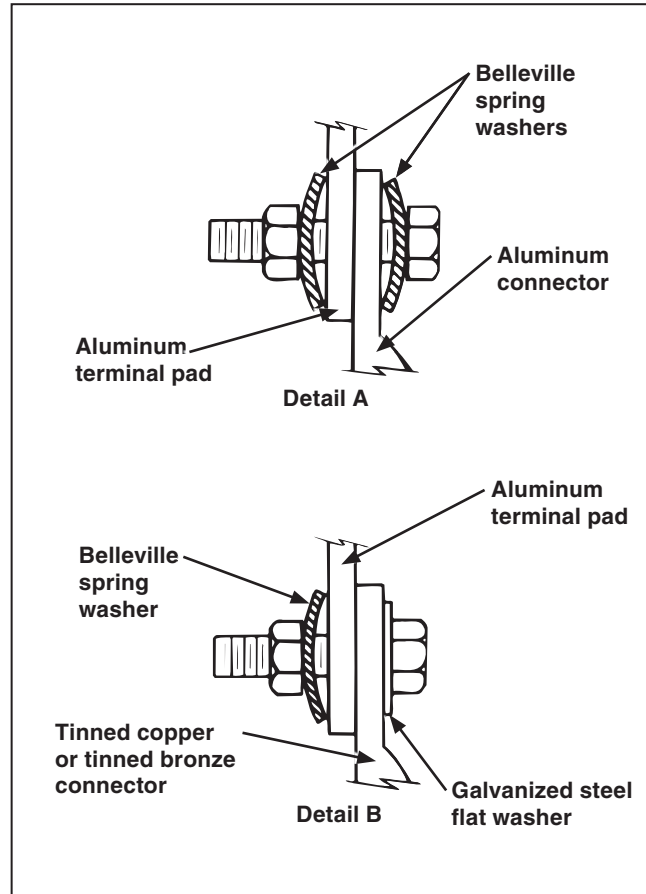

Figure 8. The terminal-pad connections.
STEP 6. Before connecting the cable terminators to the aluminum terminal pads, thoroughly wire-brush aluminum contact surfaces to remove any dirt or foreign materials as well as natural surface oxides. Immediately coat both contact surfaces to ½-inch (13 mm) beyond the joint with a uniform layer of Penetrox® A. Then, make the connections as follows. See Figure 8:
For aluminum connectors: Use ½-inch aluminum or galvanized steel hardware with two Belleville spring washers (not furnished) as shown in Detail A of Figure 8. Before tightening the connecting bolts, complete the installation of optional cable guides (where applicable) by following the cable-support manufacturer's instructions. Torque aluminum bolts to the manufacturer's specifications. Torque steel bolts to 50 foot-pounds (67.79 N-m) or, in the absence of a torque wrench, tighten each bolt until the Belleville washers are flat. Then, back off one-half turn. Do not use lockwashers with Belleville washers.
For tinned copper or tinned bronze connectors●: Use ½-inch galvanized steel hardware with one Belleville spring washer (not furnished) against the aluminum terminal pad and one galvanized steel flat washer against the tinned connector as shown in Detail B of Figure 8. Before tightening the connecting bolts, complete the installation of optional cable guides (where applicable) following the cable-support manufacturer's instructions. Torque the bolts to 50 foot-pounds (67.79 N-m) or, in the absence of a torque wrench, tighten each bolt until the Belleville washer is flat. Then, back off one-half turn. Do not use lockwashers with Belleville washers.